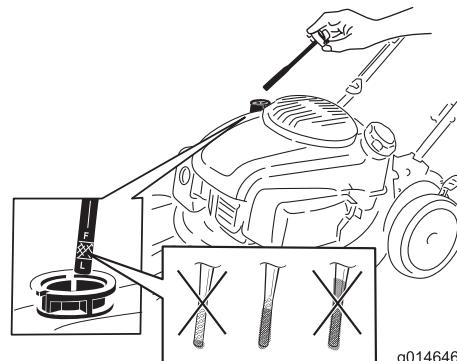

Figure 9
1. Remove the dipstick, wipe it clean, and insert it into the oil-filler neck, but do not screw it in (Figure 9).
2. Remove the dipstick and check the oil level (Figure 9). If the oil level is below the Add mark on the dipstick, slowly pour oil into the oil-fill tube to raise the oil level to the Full mark on the dipstick. Do not overfill. (Max. fill: 0.65 L (22 oz), type: 10W-30 or SAE 30 detergent oil with an API service classification of SJ or higher.)